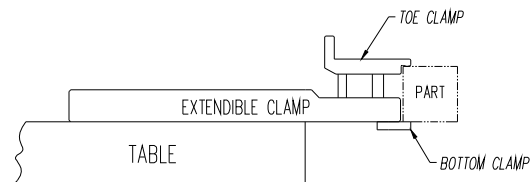

Figure 3
STEP 3. For work pieces from .625 inches to 3.5 inches thick, the toe clamp is reversed and uses a brass threaded rod and cap screw of varying length depending on the thickness of the work piece as shown in Fig. 3.